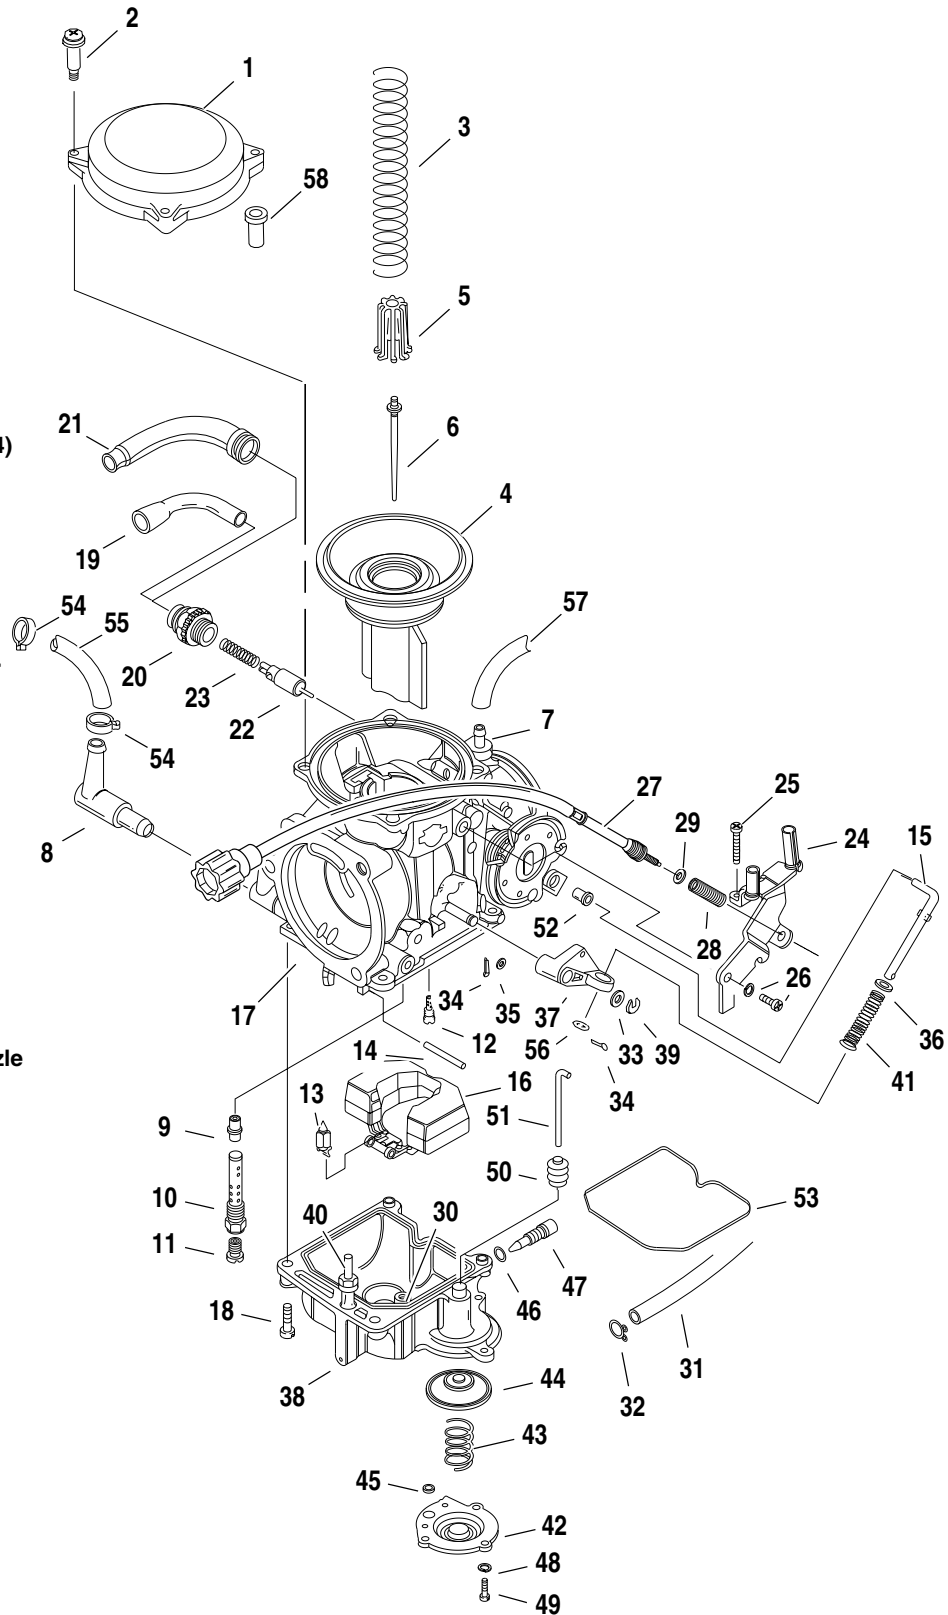

Figure 4-14. Constant-Velocity (C.V.) Carburetor
1. See Figure 4-14. Hold vacuum piston (4) up to strong light. Examine diaphragm at top of vacuum piston for evidence of pinching, holes or tears. Replace if damaged.
2. Examine vacuum passage through bottom of piston (4). Clean passage if restricted.
3. Examine spring (3) for stretching, crimping, distortion or damage. Replace if necessary.
4. Examine slide on sides of piston (4) to be sure surface is smooth and clean. Clean or buff out any rough surfaces.
5. Examine jet needle (6) for evidence of bending or damage. Needle should be straight; surface of taper should be smooth and even.
6. Check float bowl O-ring (53) for any distortion or damage. Replace if seating surfaces are damaged.
7. Examine fuel inlet valve (13) and inlet valve seat. Clean with carburetor cleaner. Replace if seating surfaces are damaged.
8. Clean slow jet (12) with carburetor cleaner. Check to be sure all orifices are open.
9. Check enrichener valve (22). Be sure needle guide is clean, straight and undamaged. Check composition seating surface for wear or damage. Replace if damaged.
11. Clean needle jet (9). Replace if damaged.
1. See Figure 4-14. Inspect the accelerator pump diaphragm (44) for holes, cracks or deformation. Replace as necessary.
2. Replace the accelerator pump rod (51) if it is bent; replace the boot (50) if cracked.
1. See Figure 4-14. Place jet needle (6) through center hole in vacuum piston (4). Place spring seat (5) over top of needle.
2. Insert vacuum piston (4) into carburetor body. The slides on the piston are off-center and the piston will fit into the slide track grooves one way only. If piston does not fit, rotate 180°.
3. Check to be sure diaphragm is seated evenly into groove at top of carburetor body. Place spring (3) over spring seat (5), and carefully lower top cover (1). Keep spring straight while lowering top cover.
4. After top cover (1) is seated, hold top cover while lifting vacuum piston (4) upward. Piston should raise to top smoothly. If piston movement is restricted, spring (3) is cocked; lift up top cover, then lower carefully, keeping spring coils straight.
5. Once top cover is installed correctly, install three shouldered screws (2). Place throttle cable bracket (24) in position with idle adjuster (27) resting on top of throttle stop plate. Install body screw and lockwasher (26) first, then top screw (25) to prevent bending bracket or throttle cam.
1. See Figure 4-14. Thread slow jet (12) into slow jet passage with narrow-bladed screwdriver.
2. Turn carburetor upside down. Place needle jet (9) in main jet passage with needle passing through center hole. Be sure end of jet with larger opening and chamfered surface enters passage first.
3. Insert needle jet holder (10) into main jet passage with needle inserted into center of holder. Thread holder into passage and tighten. Thread and tighten main jet (11) in tapped hole in needle jet holder (10).
4. Place float assembly (16) into position with fuel inlet valve (13) inserted into valve seat and with pivot arm aligned with holes in mounting posts (at bottom of carburetor body). Insert pin (14) through float pivot arm and float mounting posts.
6. Place float bowl (38) over float and onto carburetor body flange. Bowl will only fit in one position. Install and tighten screws and lockwashers (18).